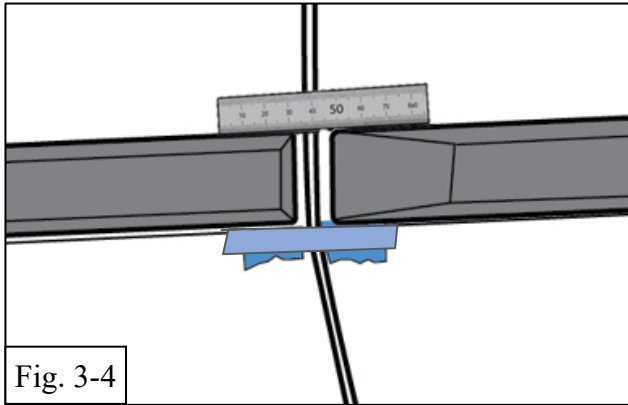

Fig. 3-4
**NOTE:** A good way to ensure that where the rear and front molding meet between the doors align vertically is to hold a plastic straight edge against the top of the front molding and use it as a guide for the rear molding as shown in Fig. 3-4. Tolerance for alignment in the vertical direction of the front and rear molding in relation to each other is **0.0mm +/-1.0mm**.